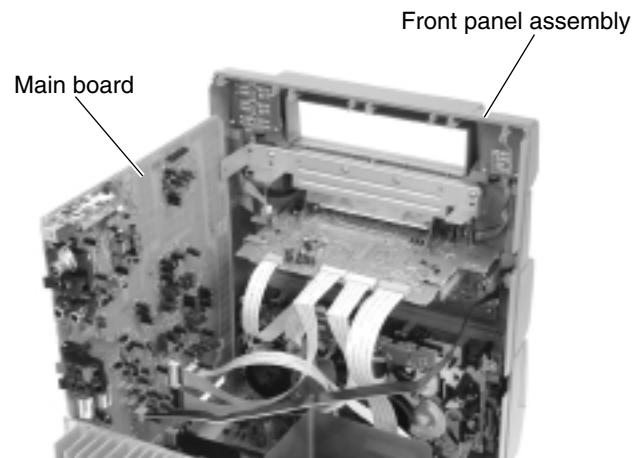

Fig.8
■Removing the front panel assembly (See Fig.8 to 13)